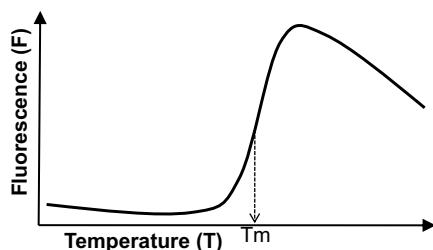

Figure 2. Fluorescence vs temperature.
- 3.1 Analyze the fluorescence vs temperature data. In Applied Biosystems/Thermo Fisher Scientific software, this is the “normalized reporter” melt curve plot (Figure 2).